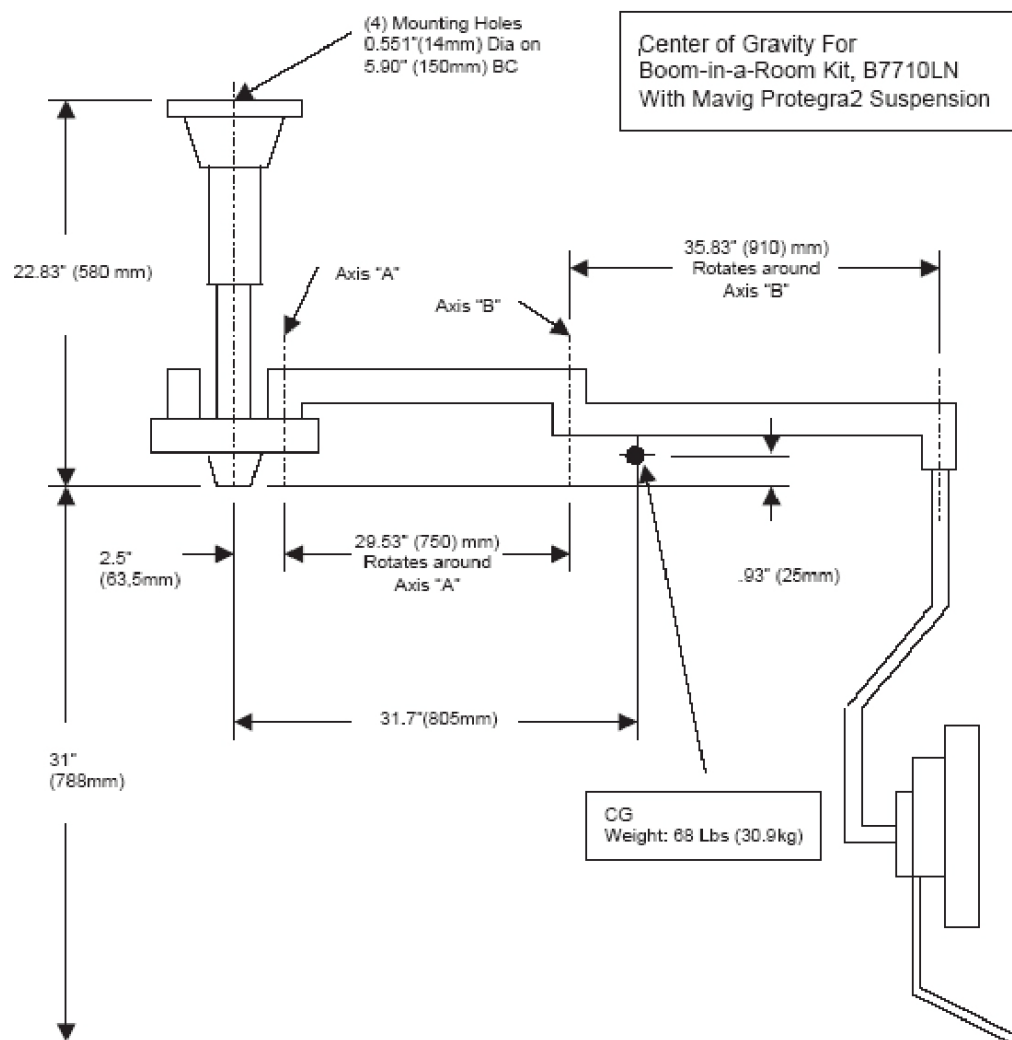

Figure 8-1 Center of Gravity for Boom-in-a-Room Kits, shown on the site print
The pedestal-ceiling mount requires a flush ceiling mounting plate that is structurally supported to handle the weight of the load as shown in Figure 8-1. You can order a Mavig-designed ceiling plate (p/n E8007PJ / E8004NG). This 356 mm x 356 mm (14 in. x 14 in.) plate has pre-drilled 1/2 in. mounting holes in each of the four (4) mounting corners. It can be used for GE approved injector or Remote monitor.